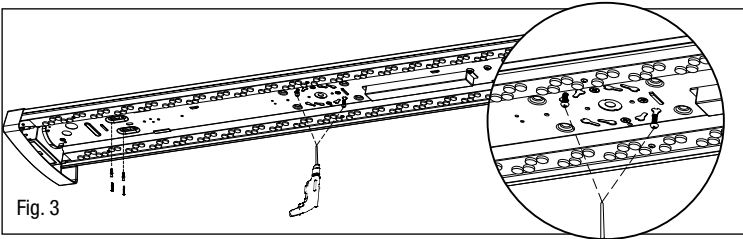

Fig. 3
5. For mounting, using the provided mounting holes on each end of the fixture housing or the Junction box mounting. Appropriate hardware should be used (supplied by others). (Fig. 3)